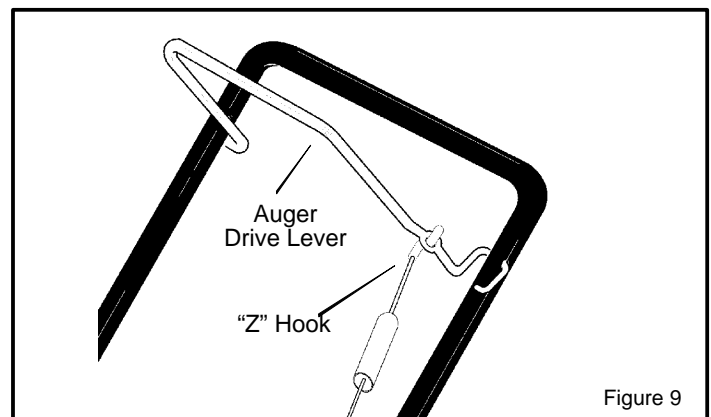

Figure 9
7. To stop throwing snow, release the **auger drive lever**. (See Figure 9).
1. Engage the **auger drive lever**. (See Figure 9).
1. Hold the **auger drive lever** against the **handle** (See Figure 9). The auger will begin rotating.